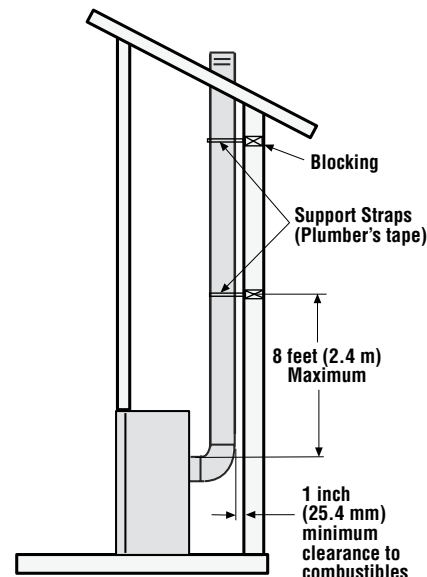

Figure 23
E. Support the vertical vent run sections - **Note** - Proper venting support is very important. The weight of the vent must not be supported by the fireplace in any degree. Support the vertical portion of the venting system every 8 feet (2.4m) above the fireplace vent outlet. One method of support is by utilizing field provided support straps (conventional plumber's tape). Secure the plumber's tape to the framing members with nails or screws. Loop the tape around the vent, securing the ends of the tape to the framing. If desired, sheet metal screws #6 x 1/2" length may be used to secure the support straps to the vent pipe. See **Figure 23**.